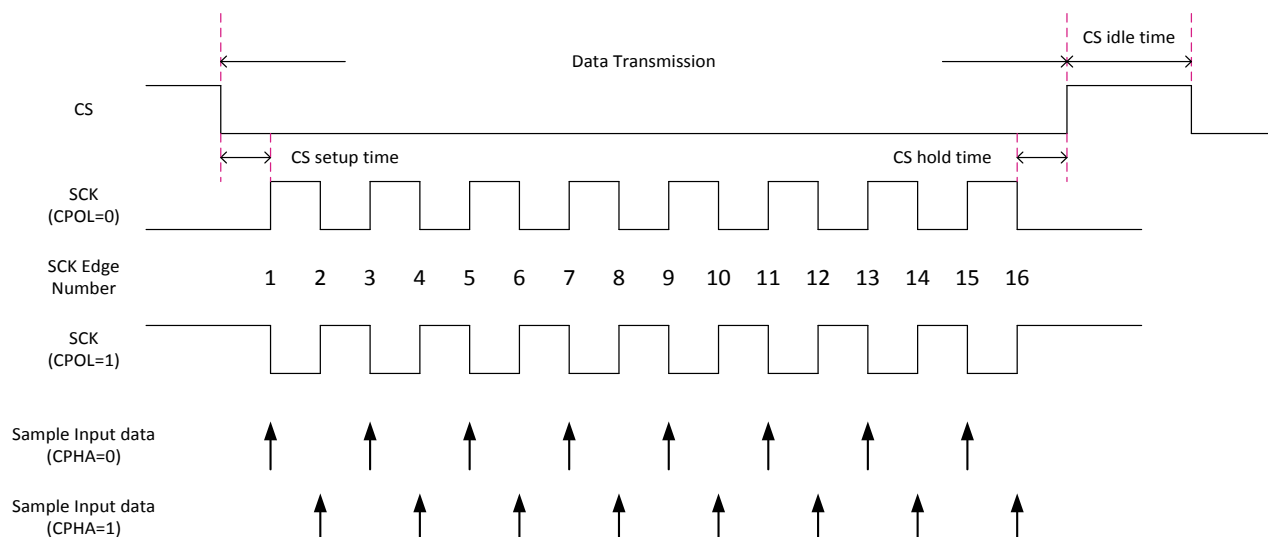

Figure 2.5-2. SPI transmission formats
- The SCK frequency can be configured as 96/N MHz when core power is 1.1V or 1.3V, and 26/N MHz when core power is 0.9V, where N ranges from 2 to 2¹⁷, with CPOL and CPHA features for different applications. CPOL defines the SCK polarity. CPHA defines the legal timing to sample data. The CS signal setup time, hold time and idle time can be configured, too. The detailed timing diagram of the SCK and CS is shown in Figure 2.5-2.